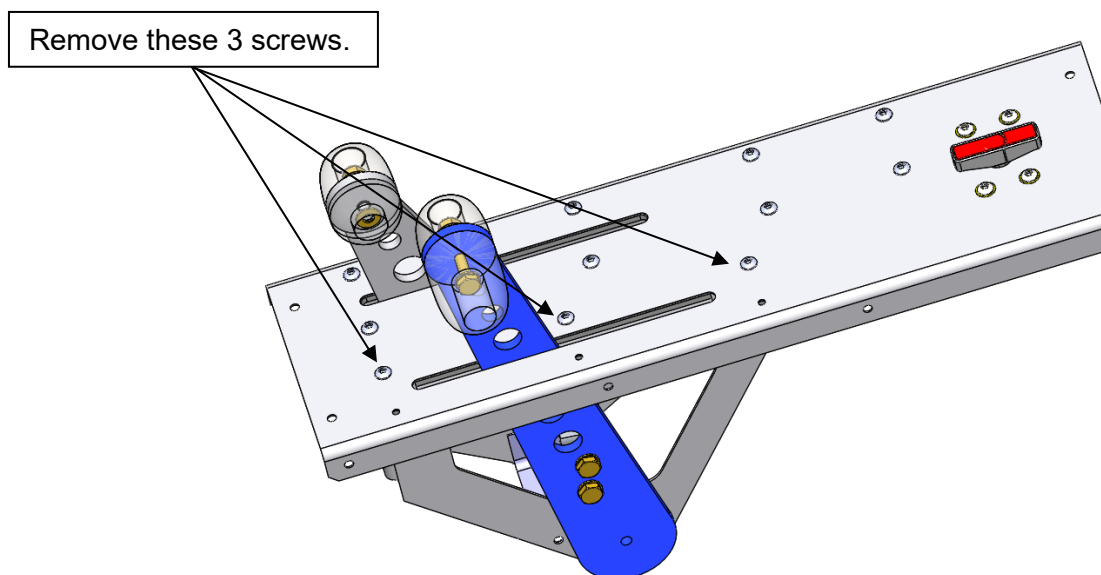

Figure 6
Step 6: Remove the 3 screws retaining the remaining bracket as seen in Figure 6.